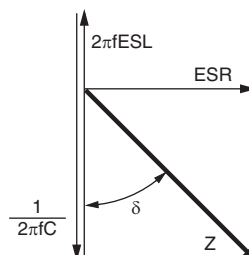

Fig. 12 - Vector diagram showing the AC parameters of a capacitor
The impedance (Z) of an aluminum capacitor is given by capacitance, ESR and ESL in accordance with the following equation (see Fig. 12):